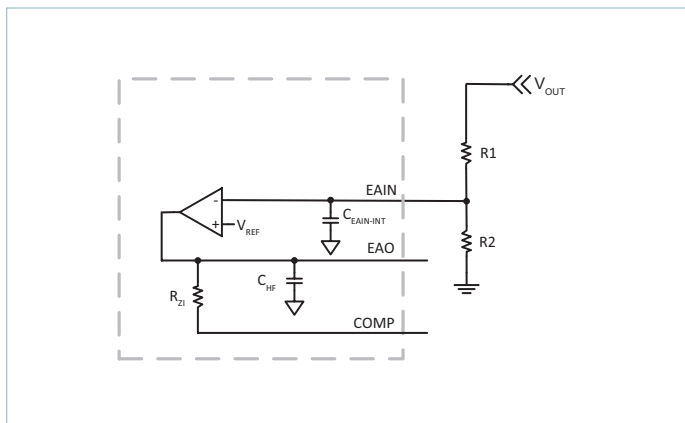

Figure 87 — External resistor divider network
The PI352x-00 family of Buck Regulators utilizes V_{REF} , an internal reference for regulating the output voltage. The output voltage setting is accomplished using external resistors as shown in Figure 87. Select R2 to be at or around 1k Ω for best noise immunity. Use Equations (2) and (3) to determine the proper value based on the desired output voltage.